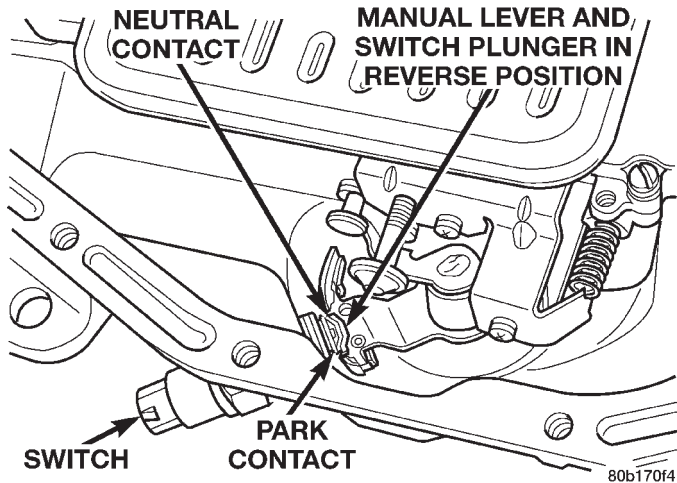

Fig. 24 Park/Neutral Position Switch
(1) Move shift lever to Park and Neutral positions. Verify that switch operating lever fingers are centered in switch opening in case (Fig. 24).
(2) Install new seal on switch and install switch in case. Tighten switch to 34 N•m (25 ft. lbs.) torque.
(3) Test continuity of new switch with 12V test lamp.
(4) Connect switch wires and lower vehicle.
(5) Top off transmission fluid level.